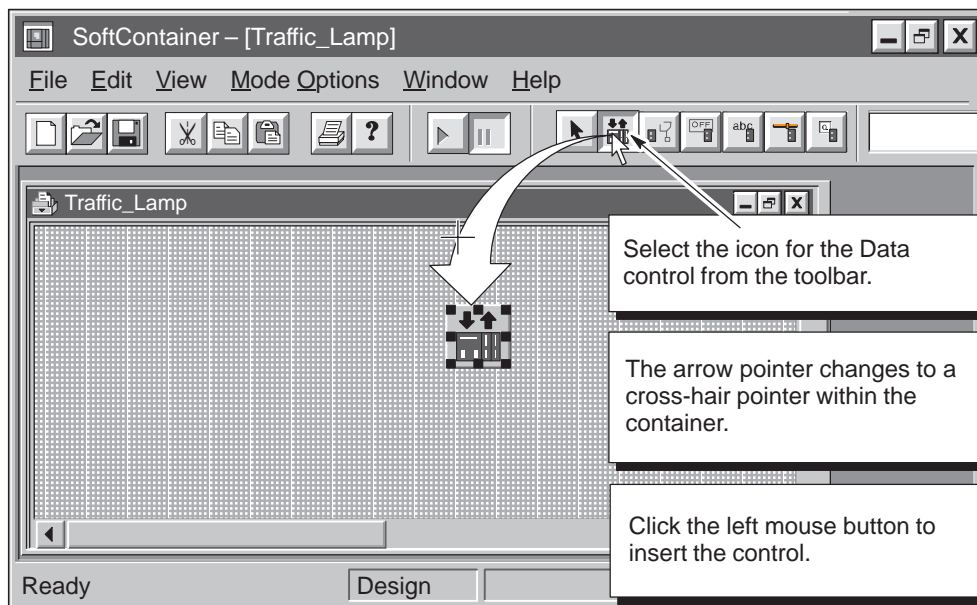

Figure 3-13 Inserting a SIMATIC Data Control from the Toolbar
1. As shown in Figure 3-13, insert a Data control: